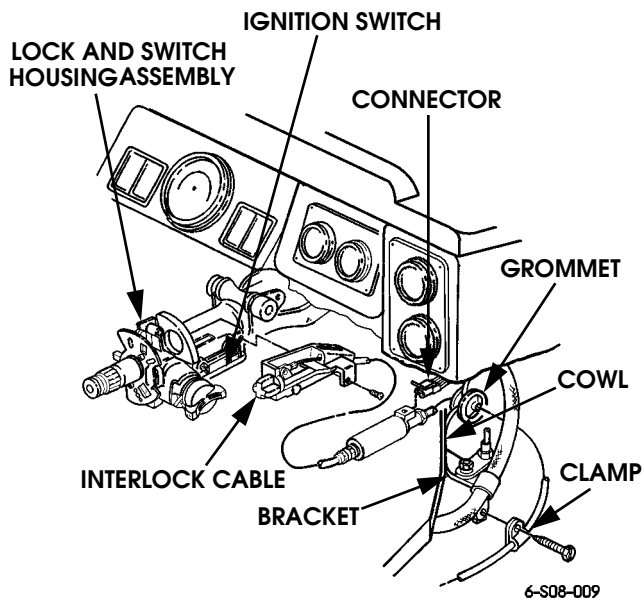

Figure 8-16: Interlock Cable/Ignition Switch
5. Remove screw and interlock cable from ignition switch (Figure 8-16).
3. Secure interlock cable to bracket with clamp and screw (Figure 8-16).